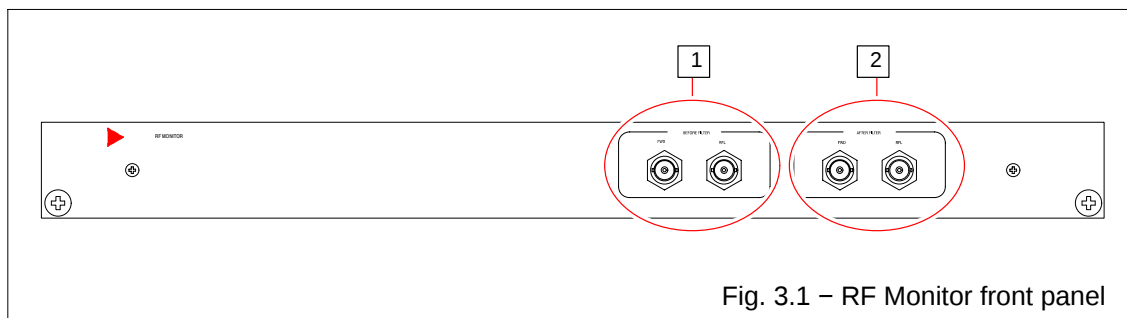

Fig. 3.1 – RF Monitor front panel
| Tab. 3.1 | – RF Monitor front panel legend (ref. Fig. 3.1) .....           | 48 |
| Fig. 3.1  | – RF Monitor front panel .....                       | 48 |
- Tab. 3.1 refers to Fig. 3.1 which is the call out of “RF Monitor” front panel
| Tab. 3.1 – RF Monitor front panel legend (ref. Fig. 3.1) |               |                                                                                                                                                                                                                                               |